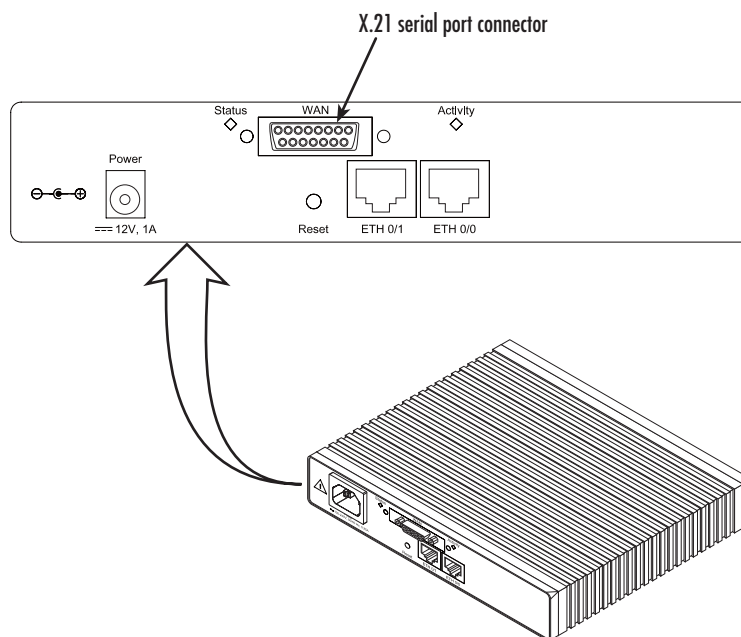

Figure 3. Rear view of the router showing location of X.21 interface connector
**Installing the X.21 interface cable.** The IPLink Model 2821 comes with a V.35 interface presented on a DB-25 female connector (see figure 3).